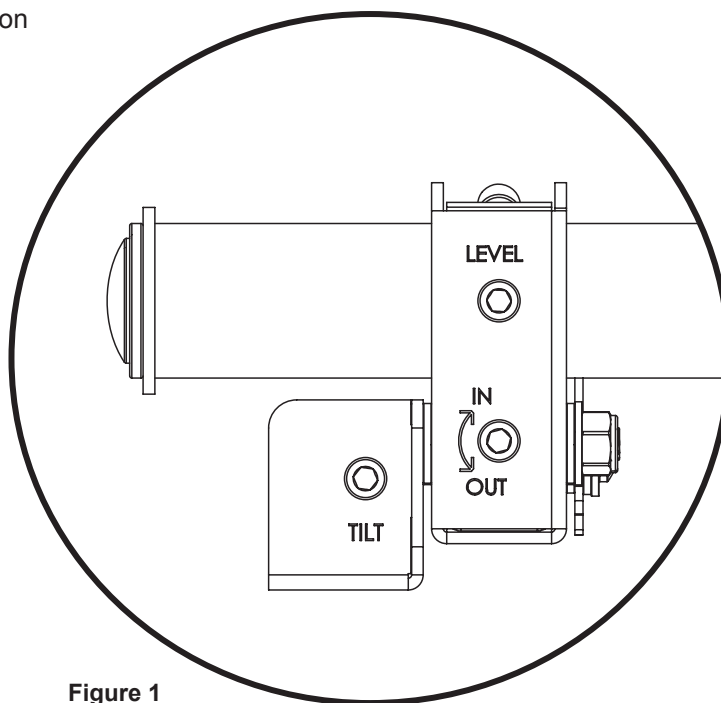

Figure 1
- 3) Mark the straw or toothpick 1/8" above the depth of the threaded insert, as shown in Figure 1.
The LMVF has a set of post-installation adjustments on each mounting bracket (Figure 1).
- 2) Lift and tilt up the bottom of the mounting brackets, then set their kickstands against the bottom tubing of the mount (Figures 1 & 2).